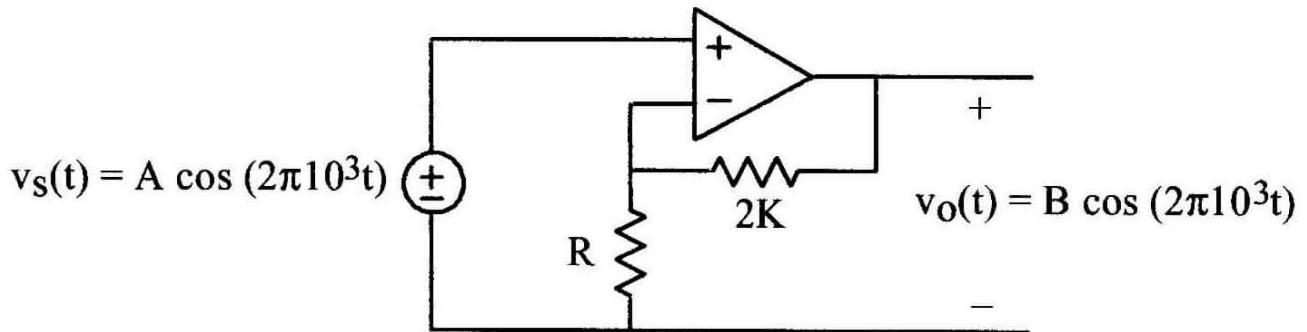
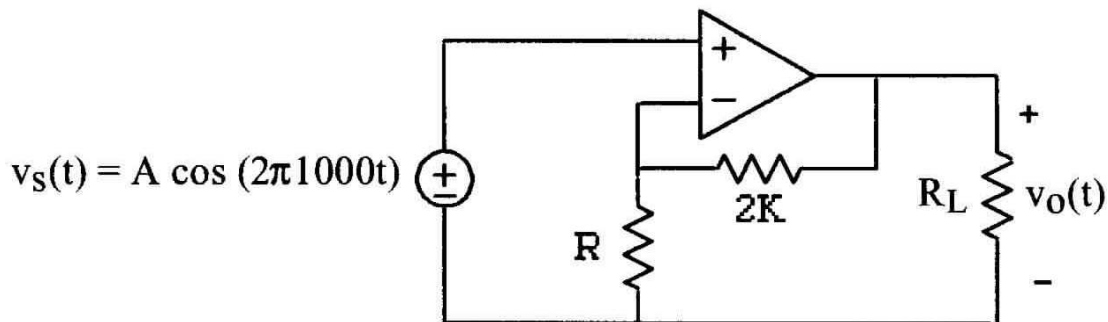

Figure 5
Figure 6
1. Redraw the circuit shown in Figure 5 to show the connection of the $\pm V_{cc}$ power supplies. Also label the op amp pin numbers. Take $R=2k\Omega$.
2. Perform a MultiSIM simulation of the circuit in Figure 5.
3. Set up the circuit shown in Figure 5 with input $v_s(t)$ from the function generator, and the output $v_o(t)$ to be displayed on Channel 2 of the oscilloscope. If your circuit does not seem to function properly, troubleshoot your op-amp circuit by following the guidelines given at the end of this lab handout.**
5. Make use of your results in part (3) to plot $v_o(t)$ as a function of $v_s(t)$.
7. Verify that your circuit is in fact operating like a controlled voltage source - that it's voltage $v_o(t)$ is pretty much unaffected by the values of load resistors R_L in Figure 6. Use values of $R_L = 2 k\Omega, 3 k\Omega, 4 k\Omega, \dots$
1. Redraw the circuit diagram with the controlled source replaced by the op amp circuit you used in Part A (i.e., use $R=2k\Omega$ in the op-amp circuit shown in Figure 5). Be sure to show the power supplies and the pin numbers of the op amp. (Hint: See Figure 1.)